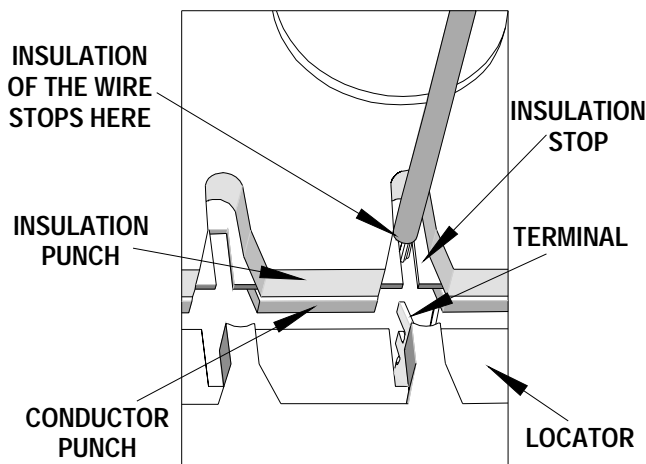
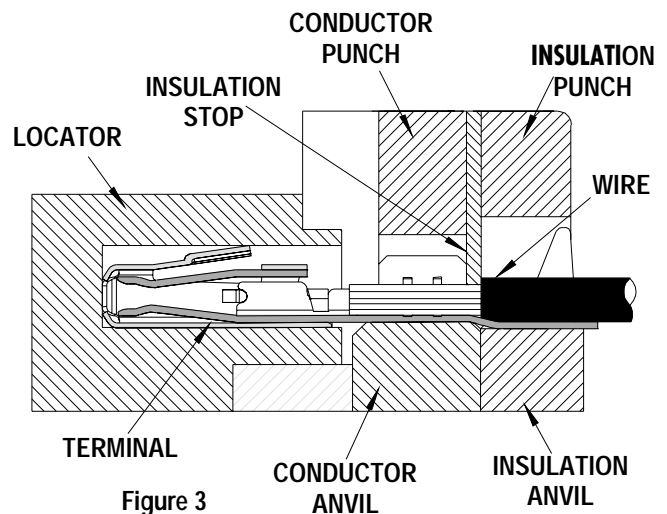

Figure 2
Figure 3
4. Slide the pre-stripped wire into the insulation stop. See Figure 2. The wire strands pass thru the insulation stop slot, while the end of the insulation touches the stop. Be sure to hold the wire in place until the terminal is fully crimped. See Figure 3.